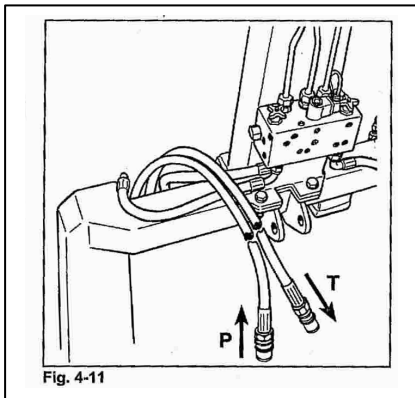

Fig. 4-11
Hose with red cap shall be connected to pressure, (P), and hose with blue cap to the return. (T). (See fig. 4-11).